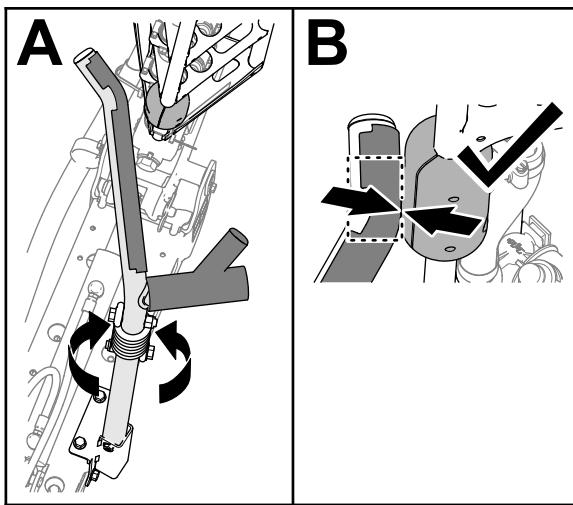

Figure 107
4. Rotate the cradle assemble until the bend in the cradle tube aligns with the slide block on the top tube of the outer boom (Figure 107)
Note: The blocks must contact the cradle at the bend in the upper cradle tube (Figure 107).